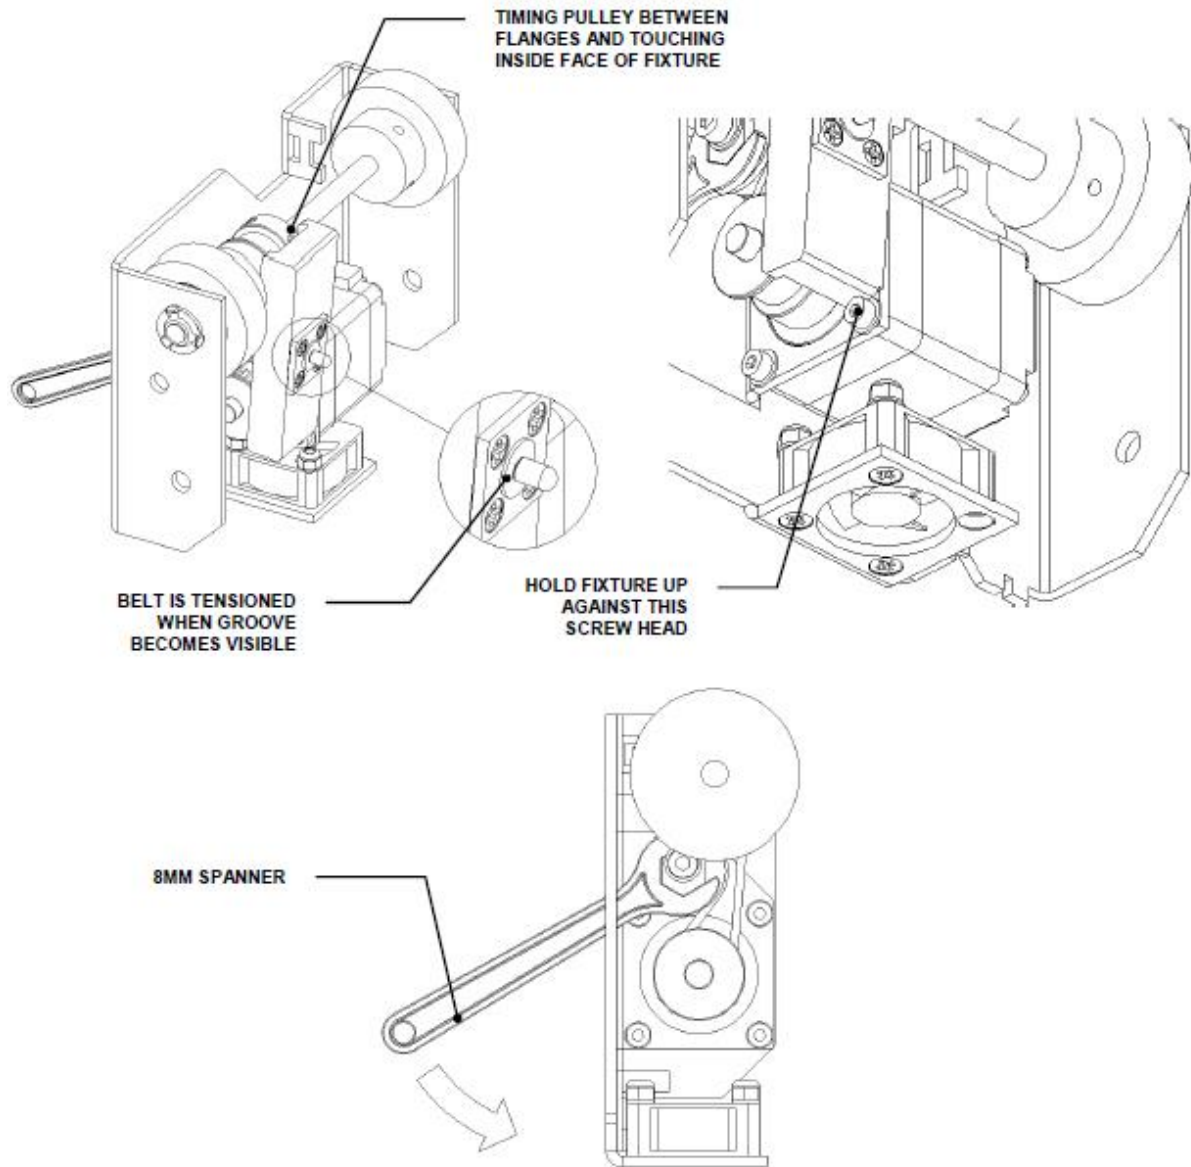

Figure J-15: Securing the Tensioning Idler
5. Position the Incubator Belt Tensioning Fixture so the two timing pulleys are between the flanges of the fixture and touching the flat face of the fixture. One end of the fixture should also be held against the motor mounting screw as shown. Next, turn the eccentric tensioning idler using an 8mm spanner as shown. The fixture plunger will move out from the fixture. When the groove of the plunger becomes visible, tighten the screw securing the tensioning idler in place (Figure J-15).